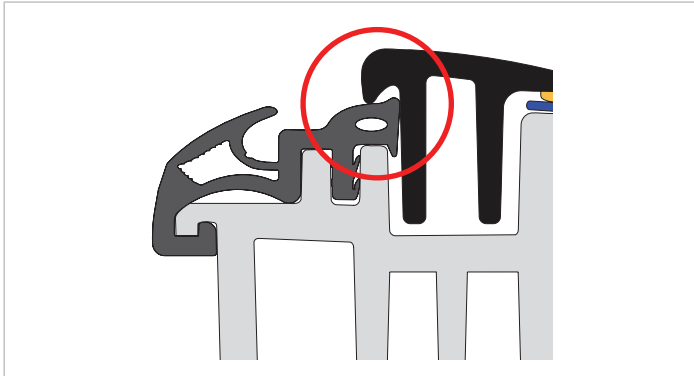

Fig. 01: Cross section of a correctly placed main seal
- ▶ Make sure the main seal is not twisted (see Fig. 01).